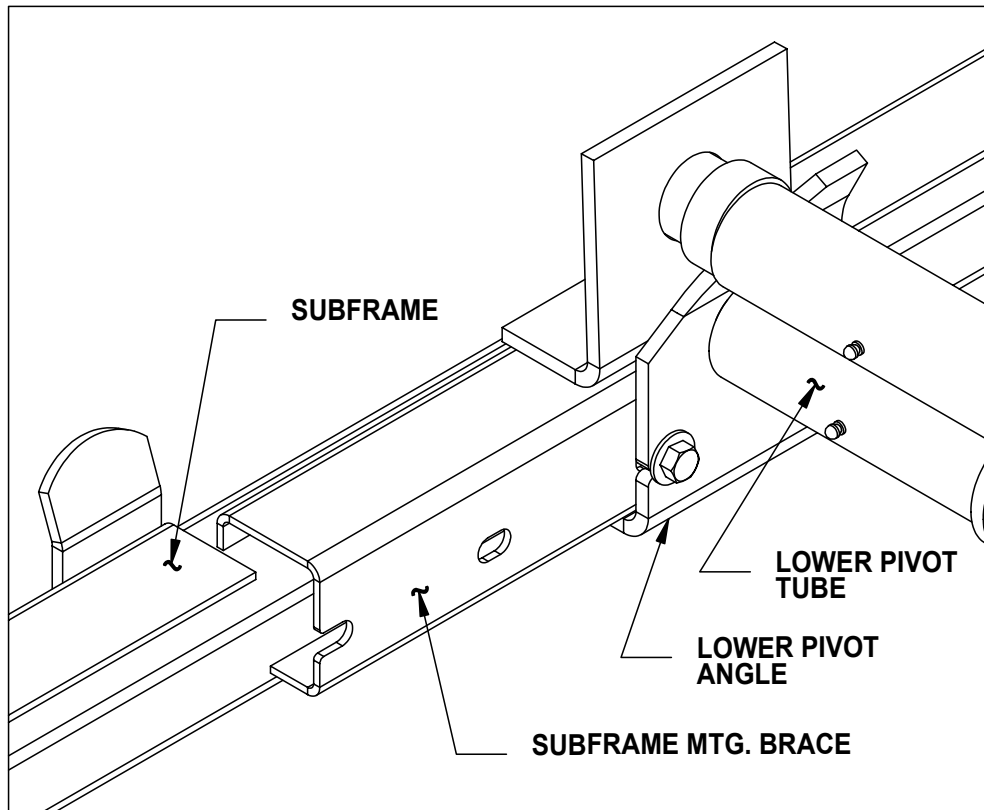

FIGURE 4a
- B. Fasten the lower pivot angles to the subframe using two (2) 1/2" x 1-1/2" hexhead cap screws, lockwashers, and nuts, and four (4) flatwashers (both sides). See Dwg. 520608 Figure 4a.